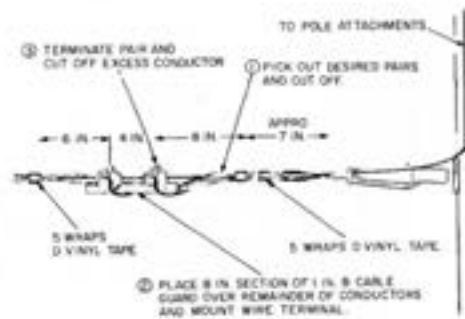

Fig. 15—Location of Wire Terminals at Dead-End Pole
9.01 Fig. 15 shows multiple line wires terminated at dead-end pole.